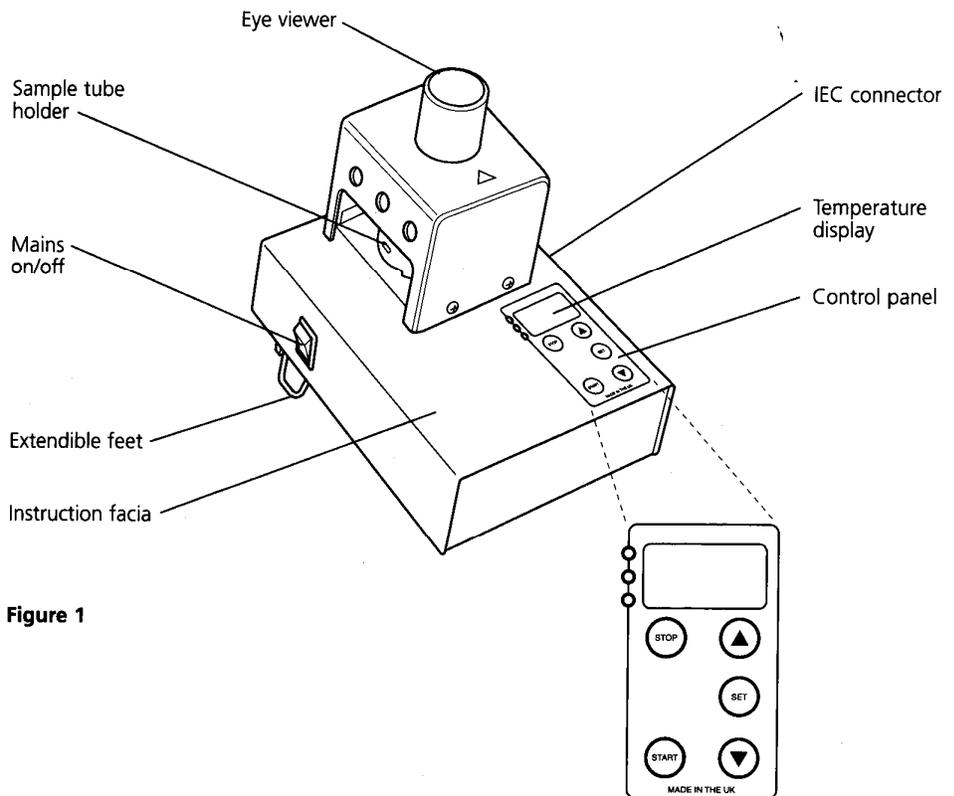

Figure 1
2. To use the SMP10, first check to see that all three function lights (STOP, START, and SET) are *NOT* illuminated (See Figure 1). If a light is showing, press the STOP button.